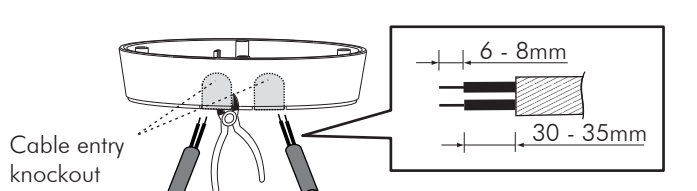

FIG.15
- 3.4.3.2 To feed AC power cables through the side of junction box, please use the cutting pliers to break the cable entry knockouts on the side of junction box, then insert cables into junction box and feed through it. Strip off 6 - 8mm of cable sheathing for wiring (See FIG.15).